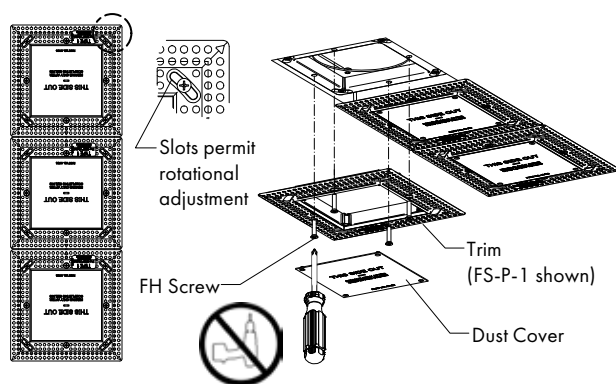

FIG 4.7 Install Trims - 3 Light
STEP 4 Install Trim to Housing by **hand tightening** 4 screws until Trim is secured against ceiling board - **FIG 4.7 & 4.8**. **DO NOT OVERTIGHTEN**. Using power screw driver is **not recommended**.